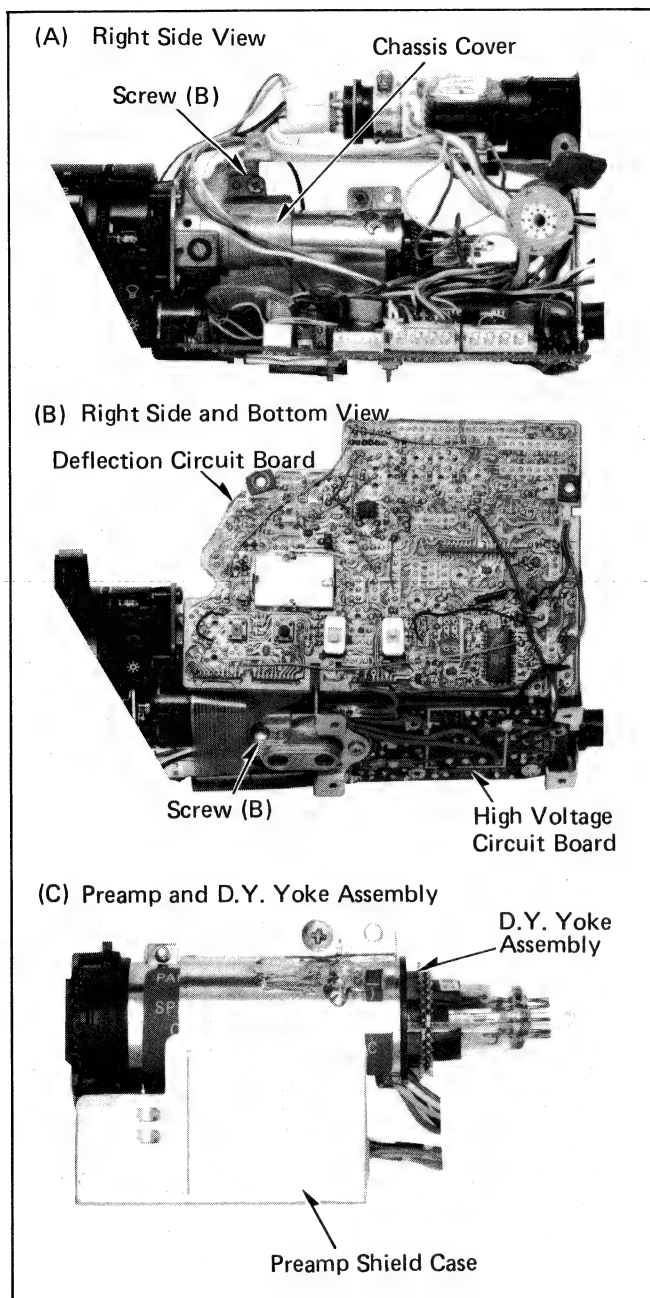

Fig. 6
- 3-5. Unscrew 2 screws (B) and remove the chassis cover (see Fig. 6-A/B). Then, remove the preamp and D.Y. yoke assembly (see Fig. 6-C).